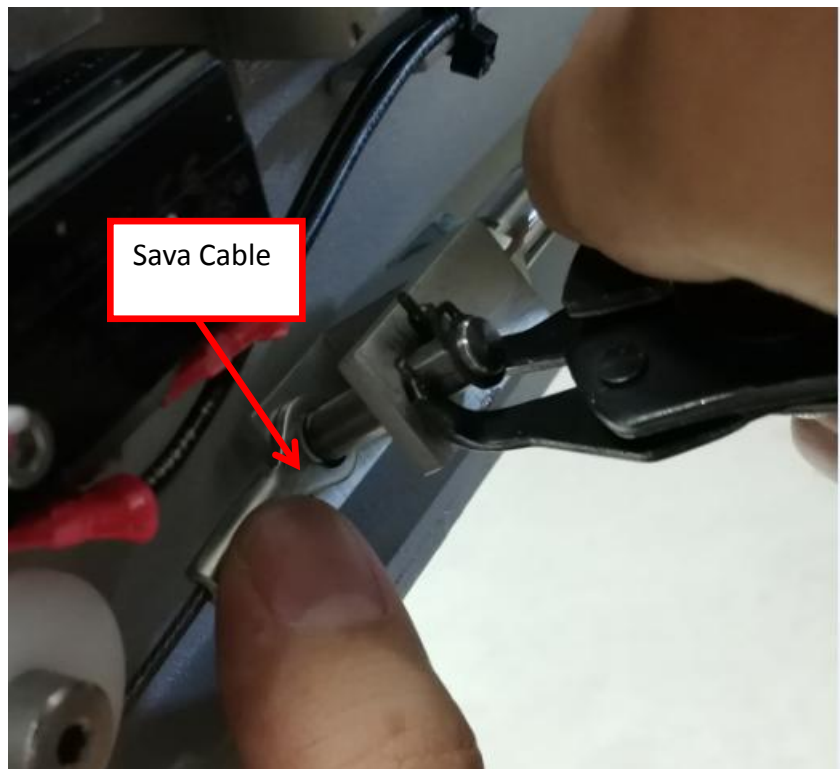

Figure 7
11. Gently remove Sava cable from dowel pin as Figure 7.